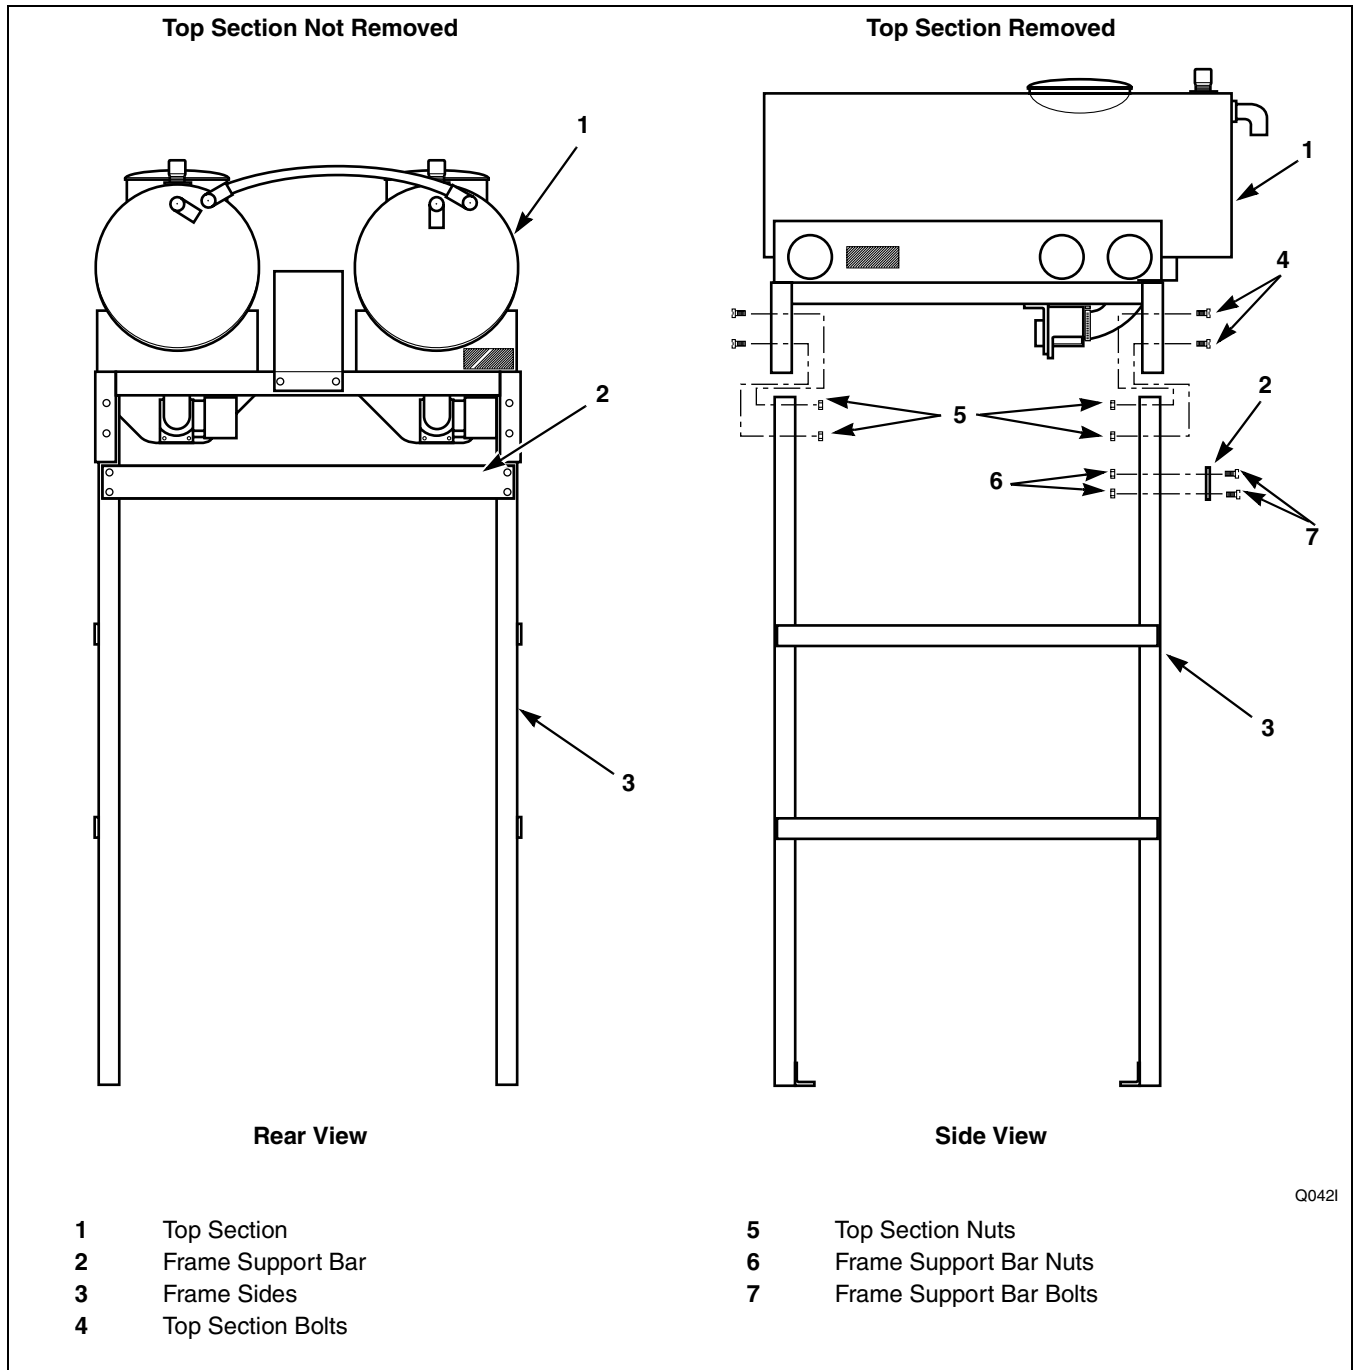

Figure 3
If removing the top section is necessary due to insufficient clearance, refer to *Figure 3* and proceed as follows:
3. Remove the eight nuts and bolts from the top section that fasten the frame sides to the top section. Refer to *Figure 3*.
5. Remove the frame sides from the wooden skid by removing the carriage bolts holding them to the skid. Remove frame support bar. Refer to *Figure 3*.